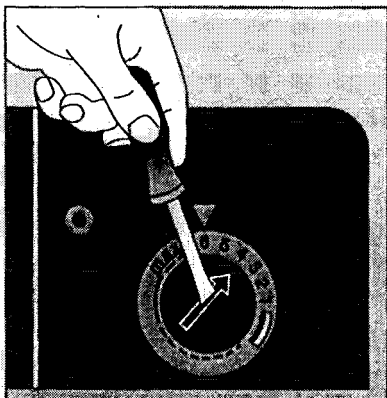

Fig. 9
- To adjust the dispenser, turn the locking lid of the rinse aid dispenser a quarter of a turn anti-clockwise and open. (Fig. 9)